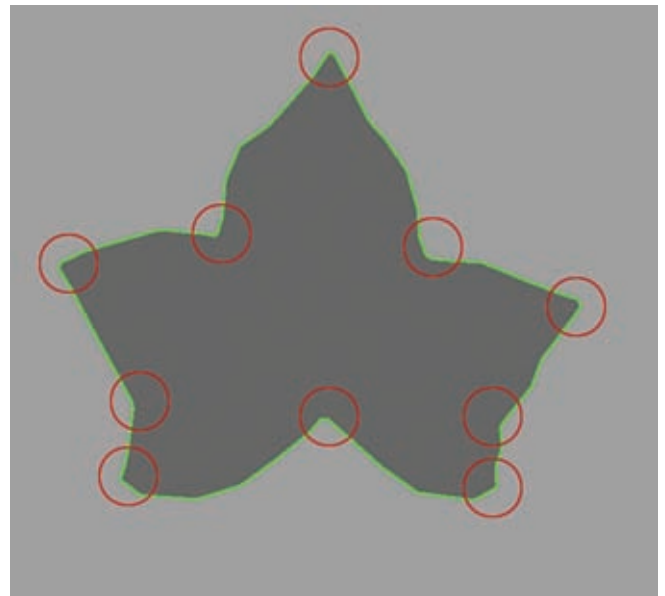

Figure 2.3
9. Select the edge loops that run along the tips of the leaf's pointy ends and the indentations between leaf fronds (as indicated in Figure 2.3) and apply a new Bevel. Adjust this bevel's Offset to be around 0.34.